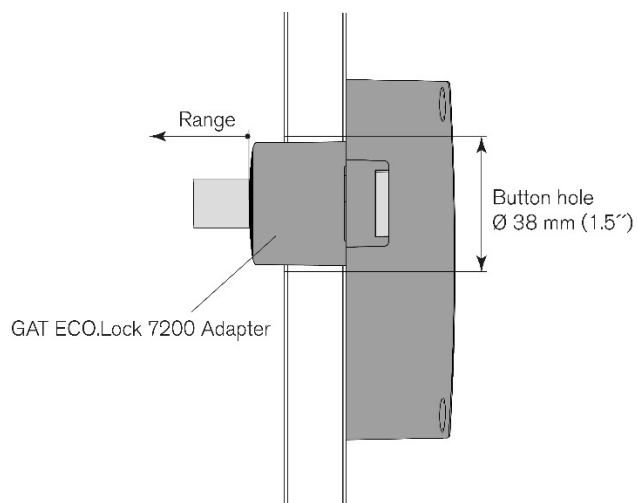

Fig. 3.8 – Diameter of the button drill hole for metallic doors and mounting the GAT ECO.Lock 7200 Adapter
- ▶ Attach the GAT ECO.Lock 7200 Adapter as shown in figure 3.8.